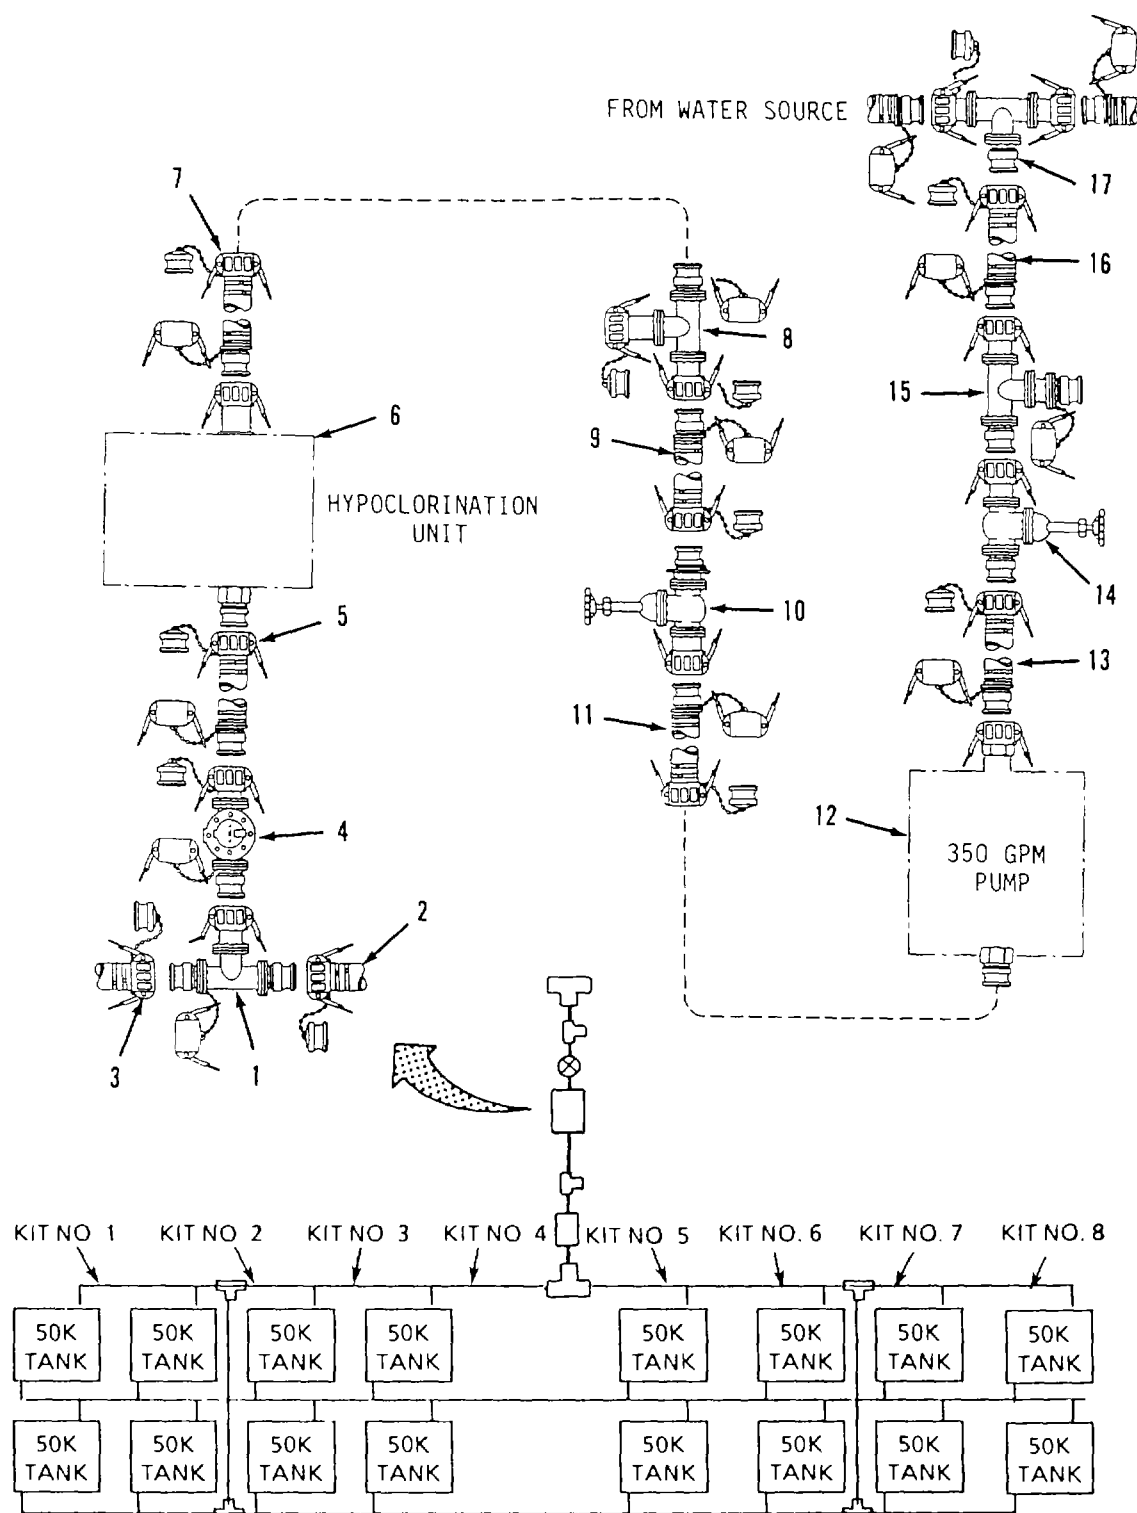

Figure 2-34. 350 Gpm Pump Connection Kit (Water Source) Disassembly.
(14) Roll up all discharge hoses and secure with tape.
(15) Prepare 125 gpm pump (6) for movement. Refer to the applicable TM.
j. Disassemble 350 Gpm Pump Connection Kit (Water Source). Refer to figure 2-34.